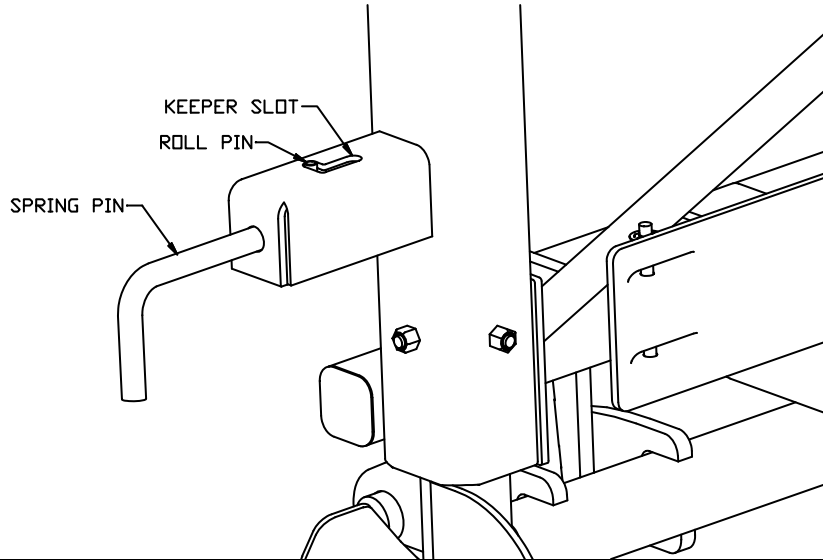

Figure 5.
- 1) The spreader should be in the lowest position before beginning. The In-Cab Controller must be turned OFF before proceeding. Back the truck into position and plug the spreader harness into the vehicle side harness. Leave the truck key in the "ON" position. Pull the spring pin outward and lock in the OUT position in the keeper slot. See Figure 5.
- 1) The In-Cab Controller must be turned OFF before proceeding. Back the truck into position and leave the truck key in the "ON" position. Pull the spring pin outward and lock in the OUT position as shown in Figure 5.